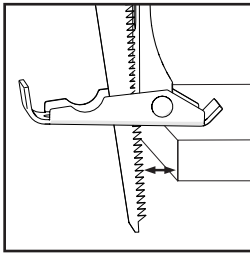

Fig. 9
- Ensure that the workpiece contact plate is firmly in contact with the workpiece but that the blade is not. **(Fig. 9).**